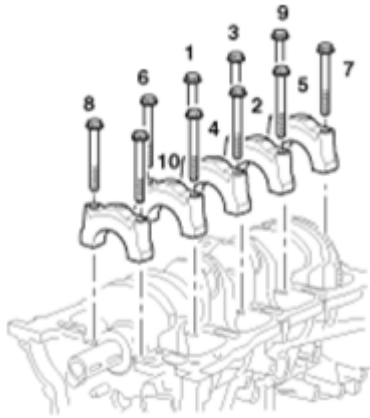

Fig. 40: Installing Torque Sequence Of Main Bearing Cap Bolts
2. Install and uniformly tighten the 10 bearing cap bolts, in several passes, in the sequence shown in **Fig. 40**. (with specified torque 29.4N.m (3.0kgf.m, 21.7lb-ft))
3. Retighten the bearing cap bolts by 120° in the numerical order shown in **Fig. 40**.